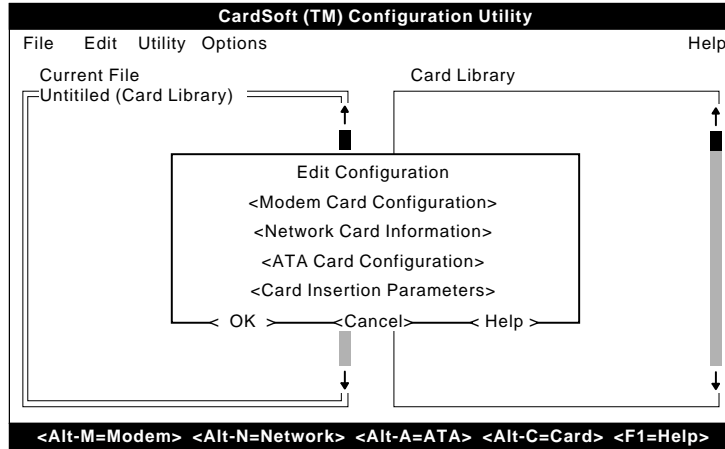

Figure B-2. Edit Configuration Menu
- 2 Select **Edit Configuration** from the File pull down menu. The Edit Configuration menu appears (see Figure B-2).